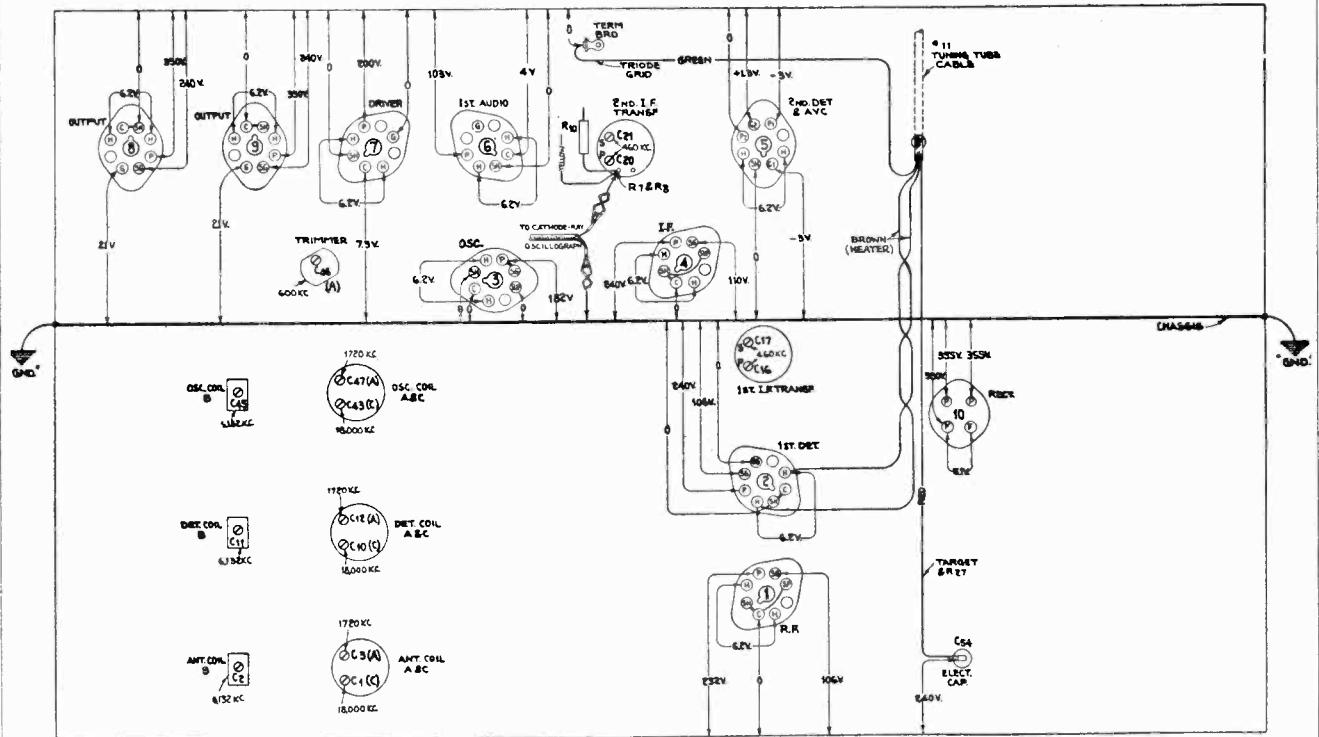
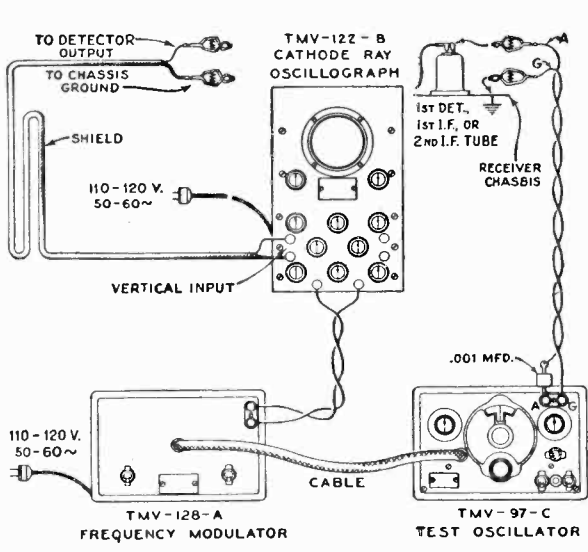

Figure 6—Trimmer Locations and Radiotron Socket Voltages
Figure 5—Alignment Apparatus Connections
The four trimmers of the two i-f transformers are located as shown by Figure 6. Each must be aligned to a basic frequency of 460 kc. The last transformer must be aligned first and the first transformer aligned secondly. For such a process, it is necessary to feed the output of the Full Range Oscillator to the stages in their order of alignment, adjusting the trimmers of each transformer and observing the effect at the second detector output on the Cathode-Ray Oscilloscope. The proper point of connection of the Oscilloscope is with its vertical "high" input terminal attached to the junction of R-7 and R-8, as illustrated in Figure 6, and with the "0" or ground terminal to the chassis. The "Ext. Sync." terminals of the Oscilloscope should be connected to the Frequency Modulator as shown in Figure 5. A .001 mfd. capacitor installed in series with the Oscillator "Ant." lead will prevent the voltages of the stage under alignment from becoming upset. The vertical "A" amplifier should be "On" for the maximum. For each adjustment, the Oscillator output must be regulated so that the image obtained on the Oscilloscope screen will be of the minimum size convenient for accurate observation. Proceed further as follows:—
- (a) With the receiver range switch in its Band A position, tune the station selector until the dial pointer is at a reading of 1720 kc. Adjust the test Oscillator to 1720 kc. (modulation "On" and Frequency Modulator disconnected) and increase its output to produce a registration on the Oscillograph. Carefully align the oscillator, detector and antenna trimmers, C-47, C-12 and C-3 respectively, so that each brings about maximum amplitude of output as shown by the wave on the Oscillograph. It will be necessary to have the timing control of the Oscillograph on "Int." for this operation. After each trimmer has been peaked, the Oscillograph timing control should be set to "Ext." and the Frequency Modulator placed into operation with its connections to the Oscillator and Oscillograph made in accordance with Figure 5. Turn the modulation switch of the Oscillator to "Off" and retune the Oscillator (increase frequency) until the forward and reverse waves show on the Oscillograph and become coincident at their highest points. Adjust the trimmers C-47, C-12 and C-3 again, setting each to the point which produces the best coincidence and maximum amplitude of the wave images.
Locations of the various antenna, detector and oscillator coil trimmers are shown by Figure 6. The test Oscillator should be removed from connection with the i-f system and its output connected to the antenna-ground terminals of the receiver. No changes are to be made in the connections of the Oscillograph at the